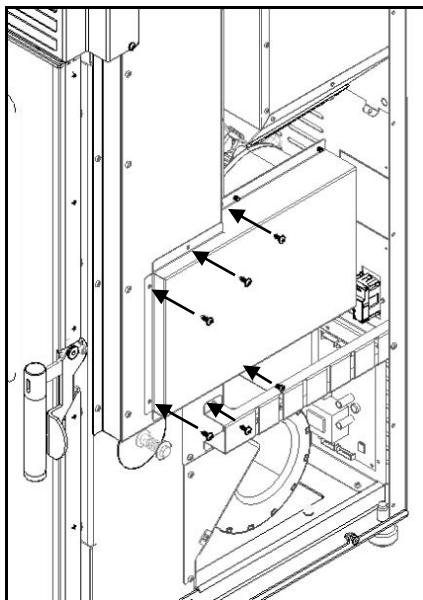

Figure 126 – Securing the ventilator to the unit
d) Remove the rear lid from the unit's chassis Figure 126, by cutting the identified areas using a pair of pliers (4).